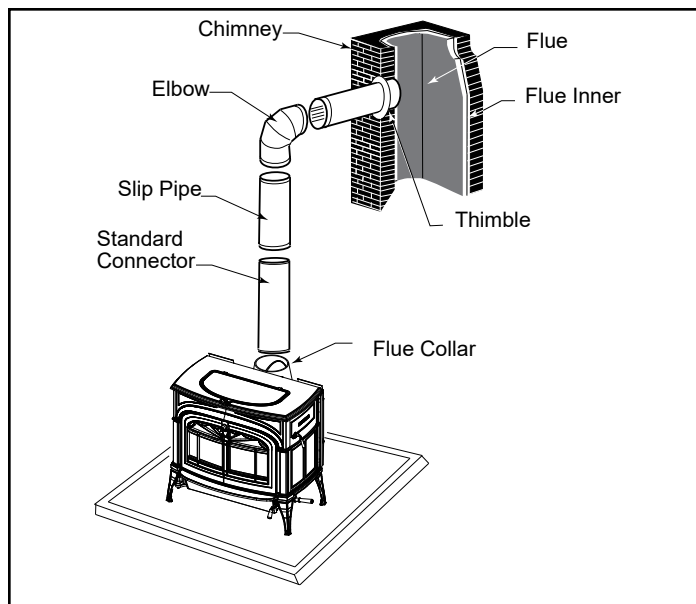

Figure 5 - An exploded view of the chimney connection in a freestanding masonry installation.
- Fasten each joint between sections of chimney connector, including telescoping joints, with at least three (3) sheet metal screws. The pre-drilled holes in the top of each section of chimney connector serve as guides when you drill 1/8" (3 mm) holes in the bottom of the next section.
- Fasten the chimney connector to the chimney. Instructions for various installations follow. Figure 5 illustrates the general layout of chimney connector parts.